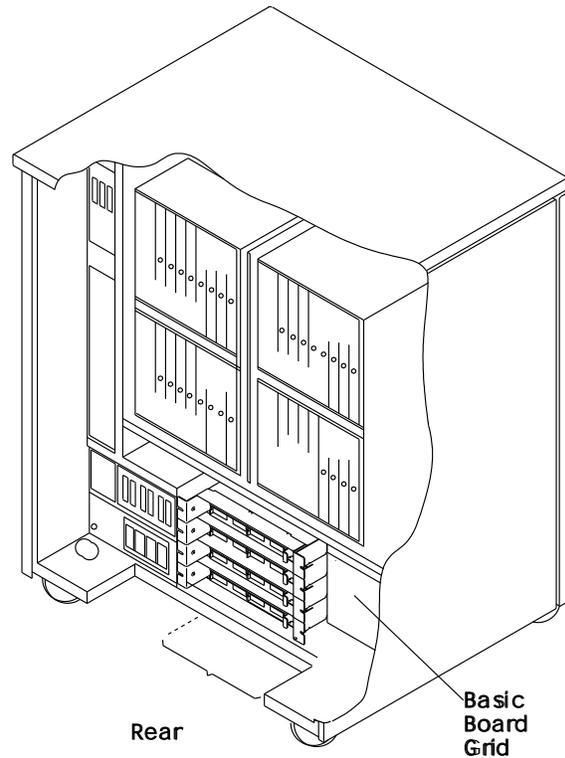

Figure 4-83. Basic Board Grid
5. Remove the grid of the basic board. (four screws must be removed). Refer to Figure 4-83.